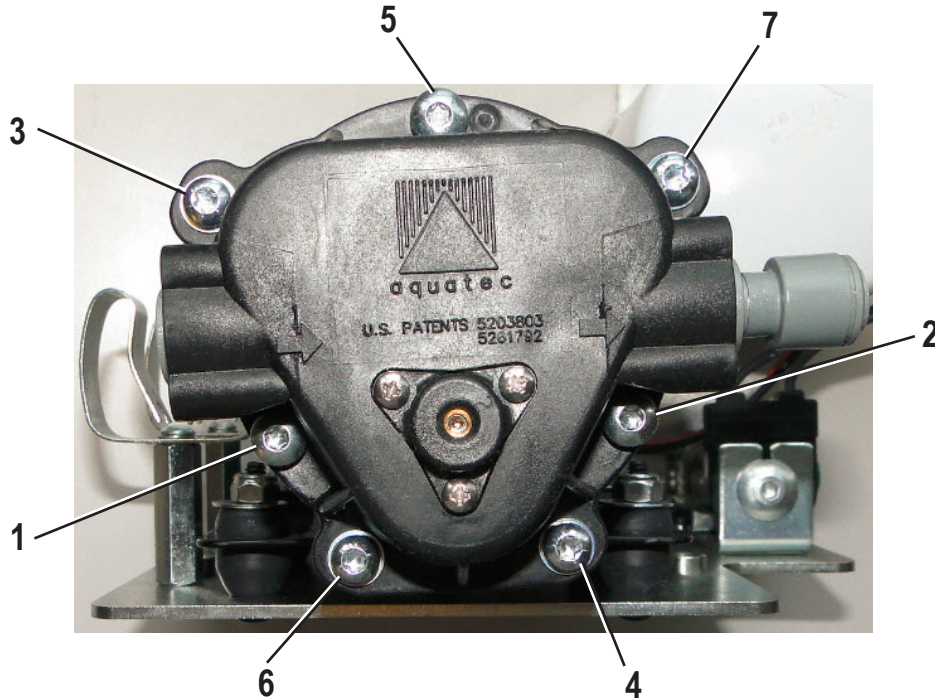

Figure 5
- Using a torque wrench and T20 Torx socket, tighten the seven screws to 26-28 Inch pounds or 3.1 Newton Meter Nm. Start with one screw and alternate sides of the pump head when torquing the screws. Refer to *Figure 5* for torquing sequence.